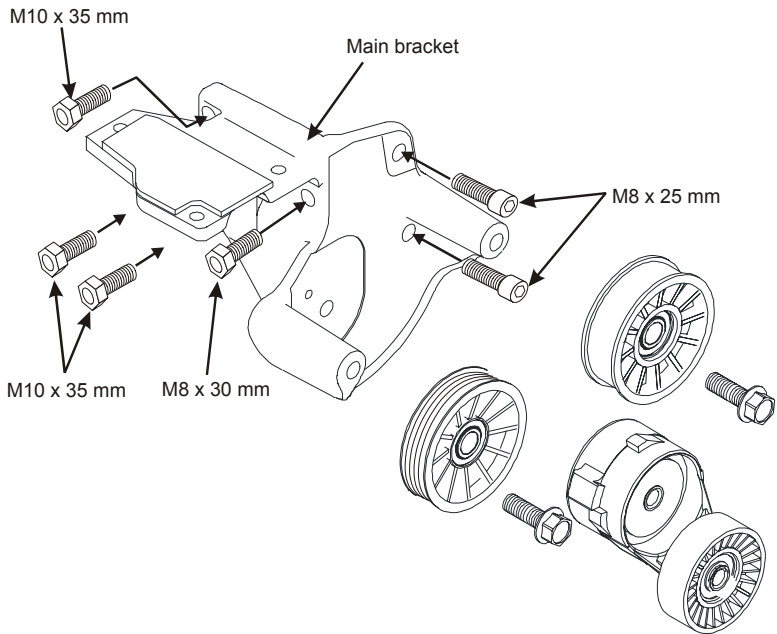

Figure 3.2
- ☐ Apply Loctite and install (Figure 3.2):